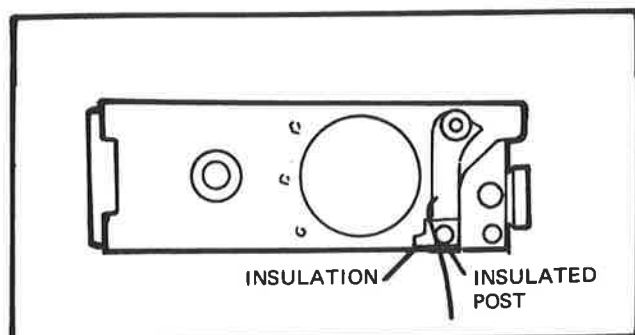

FIG. 3-11 OPENING BLADE INSULATION
- h. Check the post on the opening blade. The post on the opening blade (Figure 3-11) should have a rubber collar which insulates it from the Sx switch contact. A second insulator should also be at the base of the post to hold the contact off the blade.